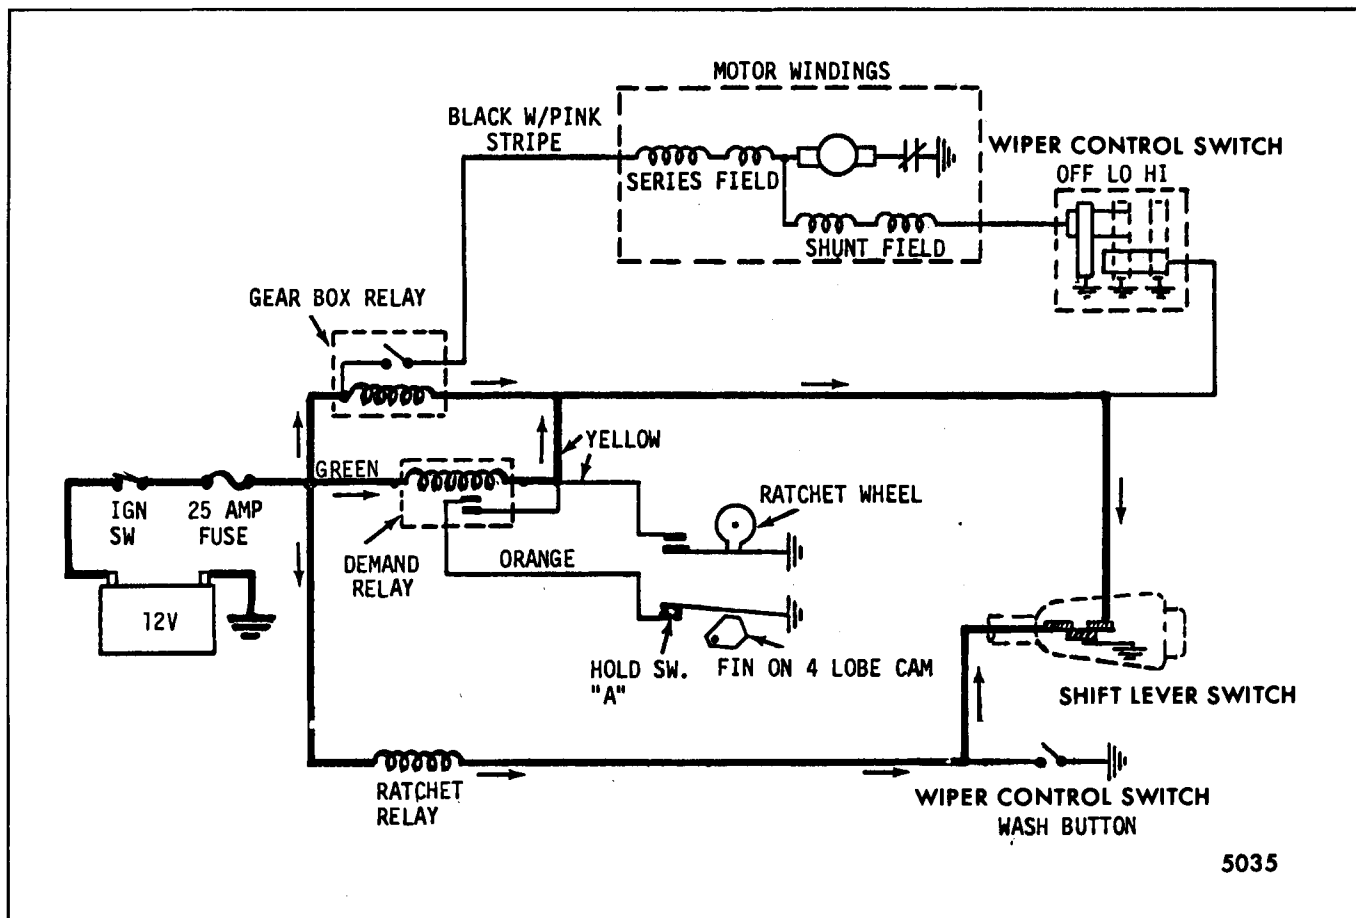

Fig. 2-71-Shift Lever Button in Second Detent Position
1. Three relay coil circuits (gear box relay, demand relay and pump ratchet relay) are completed to ground at the shift lever switch momentarily (Fig. 2-71).